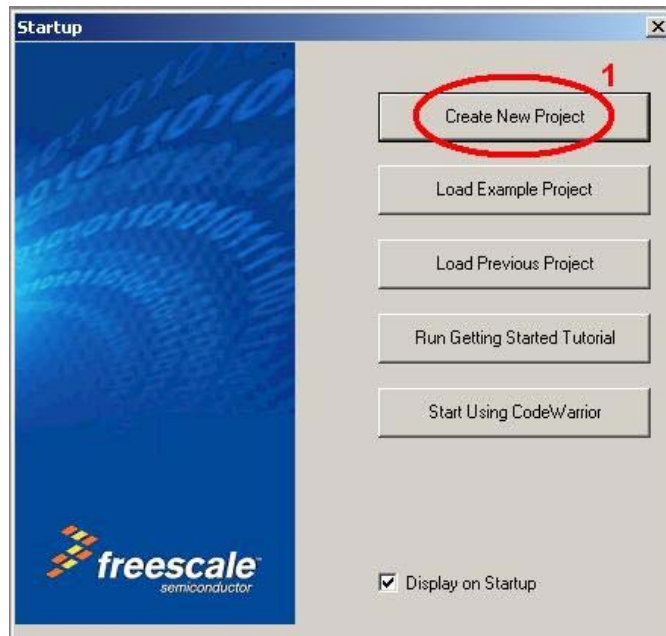

Figure 2. Startup dialog
1. When you open CodeWarrior, the Startup dialog box, shown in Figure 2, appears. Click Create New Project, button. If the Startup dialog does not appear, go to the File menu, then click Startup Dialog....